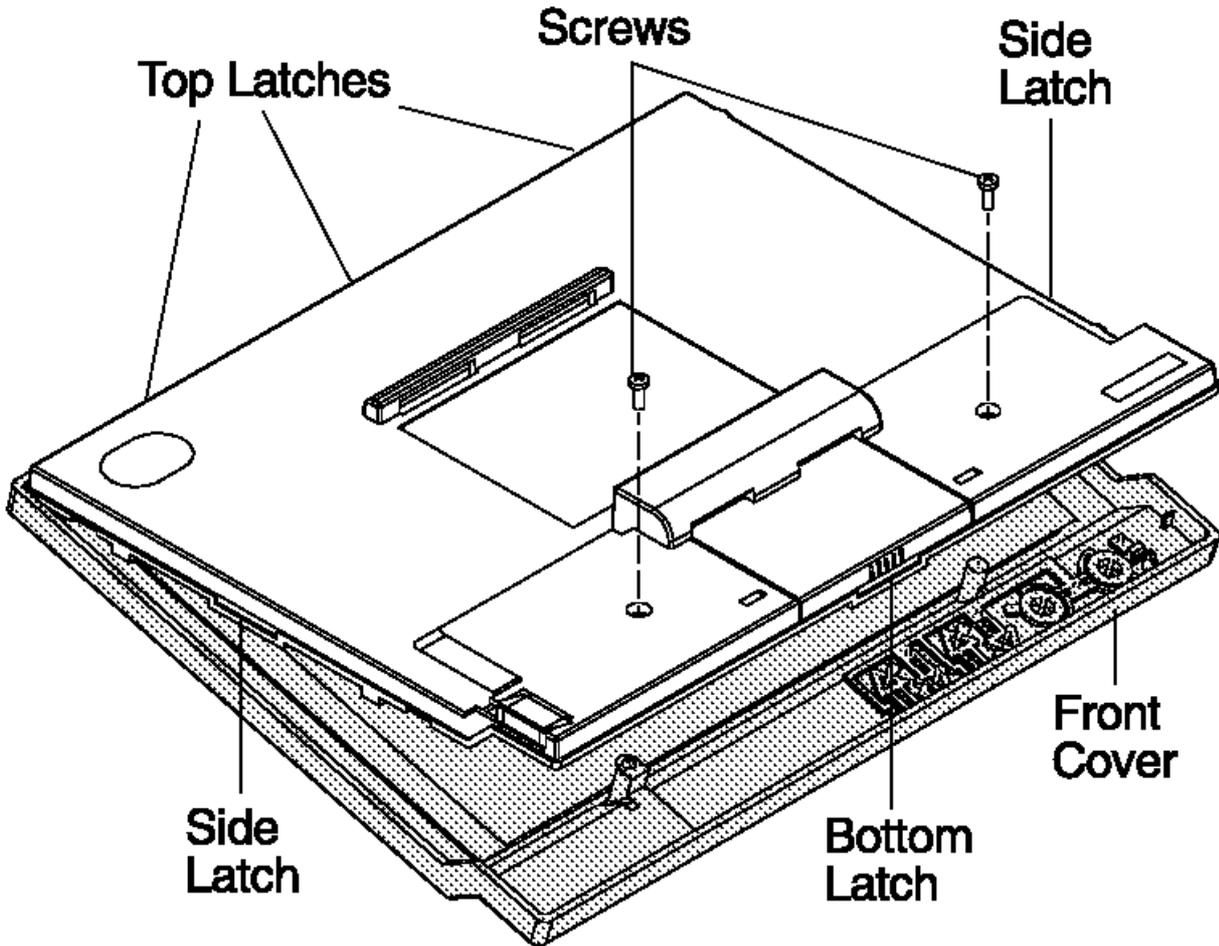

Figure 3-10. Removing the Front Cover
1. Remove the two screws. See Figure 3-10.
2. Open the front cover by gently prying and flexing the cover outward at the six latch locations shown in Figure 3-10. It is best to release at the bottom latch edge first. Then release the sides, leaving the top until last.